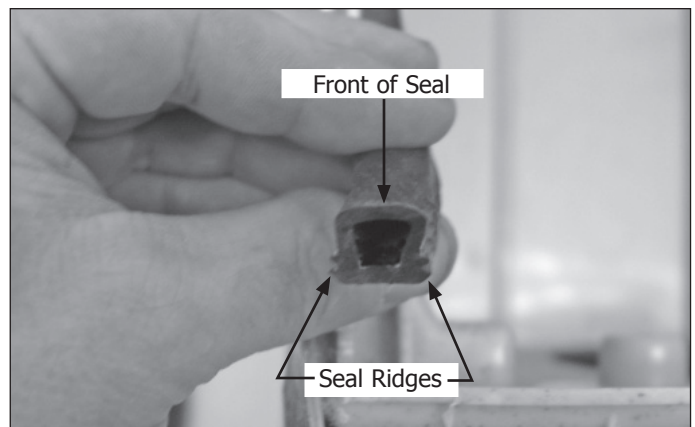

Figure 4-24.
2. Locate the inside of new seal. Go to the end of the seal, one side will be smooth, the other side will have ridges on the outside. The smooth side is the visible side in the seal channel. (See Figure 4-24)